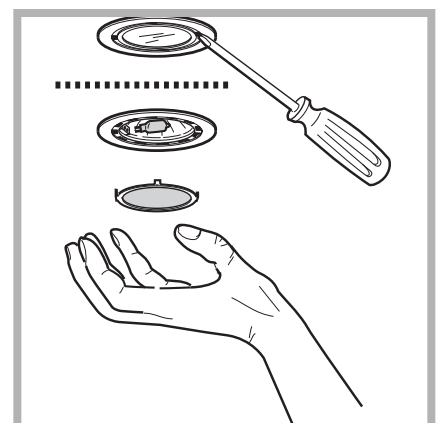

Fig. 4
- Remove the cover of the recessed lamp by using a small screwdriver to lever it out (Fig. 4).